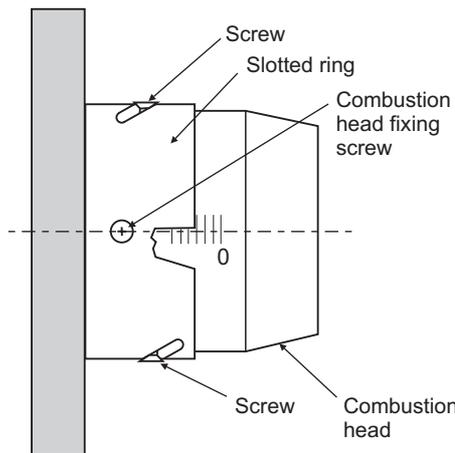

Fig. 32
- Combustion head** - Loosen the two screws securing the combustion head (**NOT** the screws in the slotted ring, Fig. 32) and withdraw the head. Clean and refit the combustion head.
- The combustion head position is adjustable on the 155/200 and 200/240 burners. Check that it is fully closed (position 0), or the 4th line if the 200/240 has been set to maximum output (70 kW). To adjust the head setting, refer to Fig. 32 and proceed as follows: Loosen the two screws in the slotted ring - **NOT** the two fixing screws, and turn the blast tube until '0' lines up with the edge of the slotted ring. Tighten the two screws.